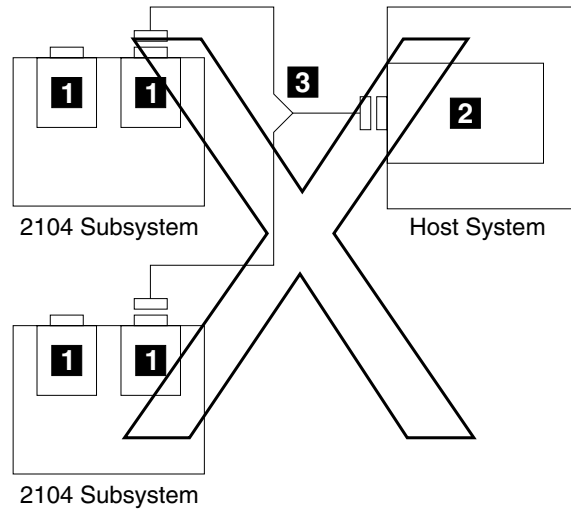

Figure 60. One adapter in one host system connected to two 2104 Model DS4s through a Y-cable (2). This configuration is invalid.
Figure 60 shows one adapter in one host system connected to two 2104 Model DS4s through a Y-cable (2).